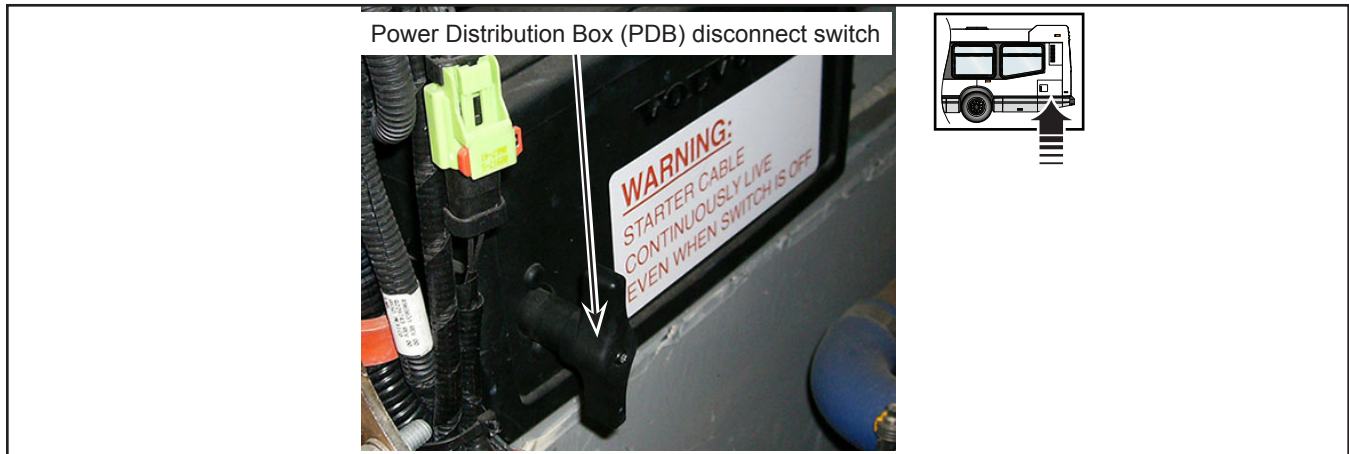

Figure 1 - Power Distribution Box and Battery Disconnect Switch
- 1.1. Open the street-side lateral engine access door and turn off the battery disconnect switch, located on the power distribution box (PDB). See Figure 1.